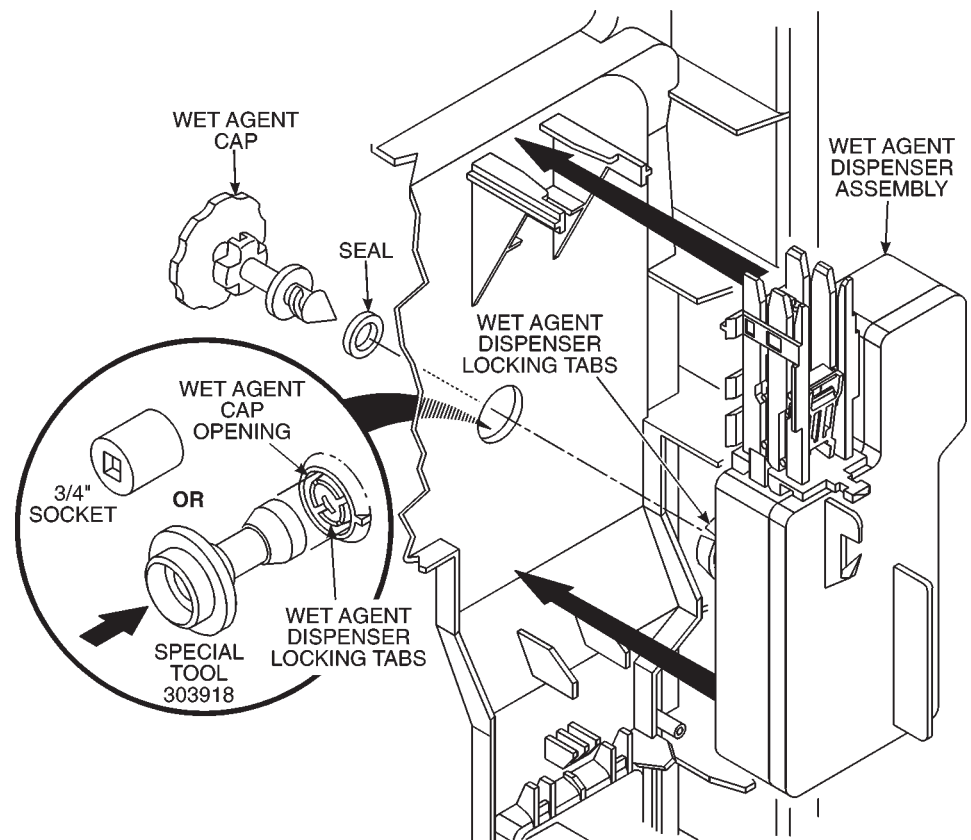

Fig. 1-29
4. Turn the wet agent cap and seal assembly counterclockwise and remove it. (Fig. 1-29)
7. Press the wet agent dispenser assembly into position so the locking tabs engage the wet agent cap opening. No tool is needed for assembly. (*Fig. 1-29*)